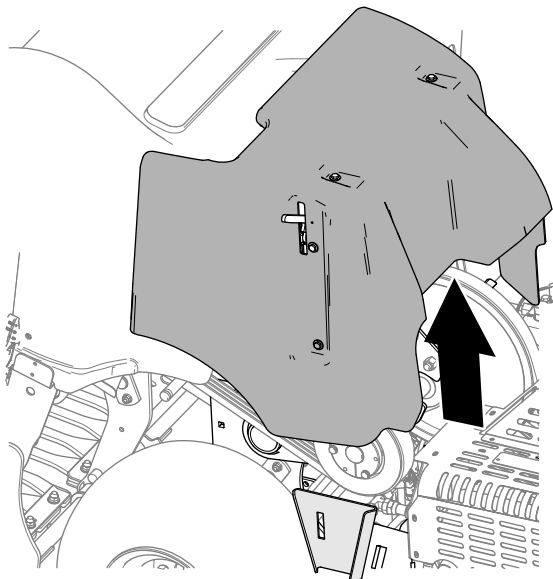

Figure 143
3. Lift the belt cover from the machine (Figure 143).